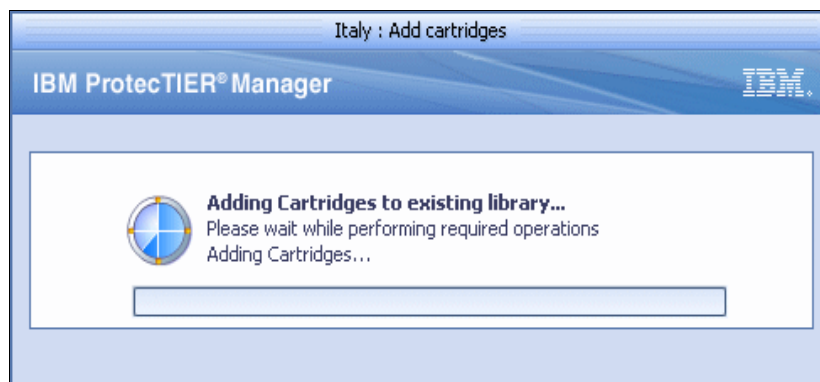

Figure 10-36 Add cartridges: Adding cartridges to an existing library window
4. Click **Finish**. The Add cartridges wizard closes and the cartridges are added to the library (Figure 10-36).